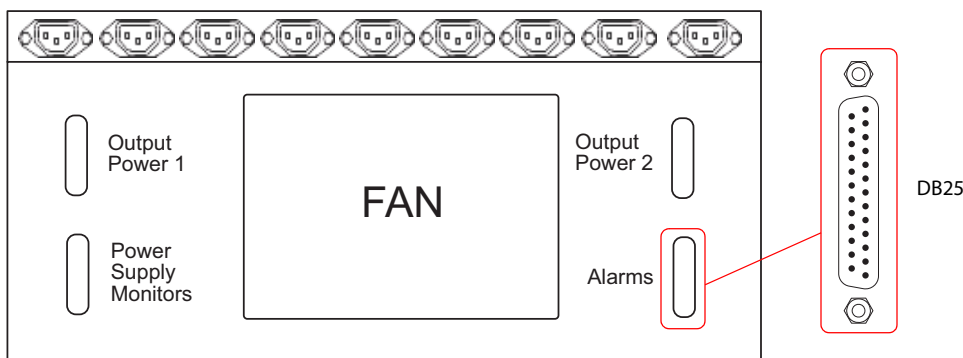

Figure 3-16. Power Supply Alarms Connection on the NV6257 (Rear View)
- 1 On the rear of the **NV6257**, locate the ‘Alarms’ connection, as shown in Figure 3-16.